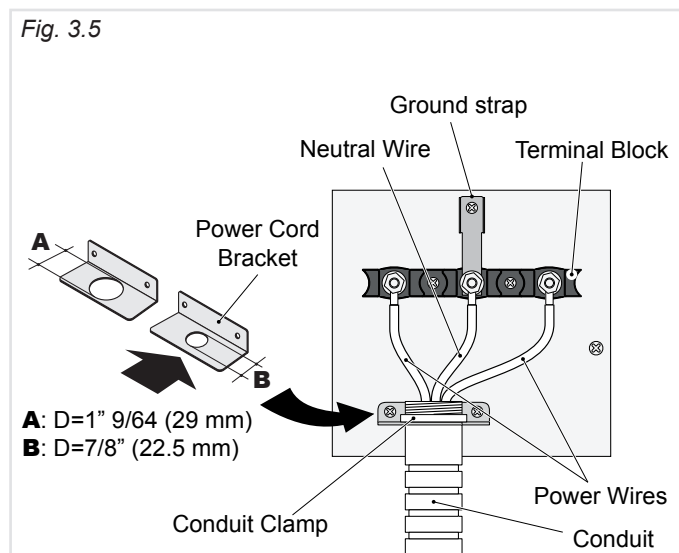

Fig. 3.5
3-Wire Conduit Installation (See Figure 3.5)
2. Check the correct positioning of the **Conduit Bracket** as per figure 3.5.